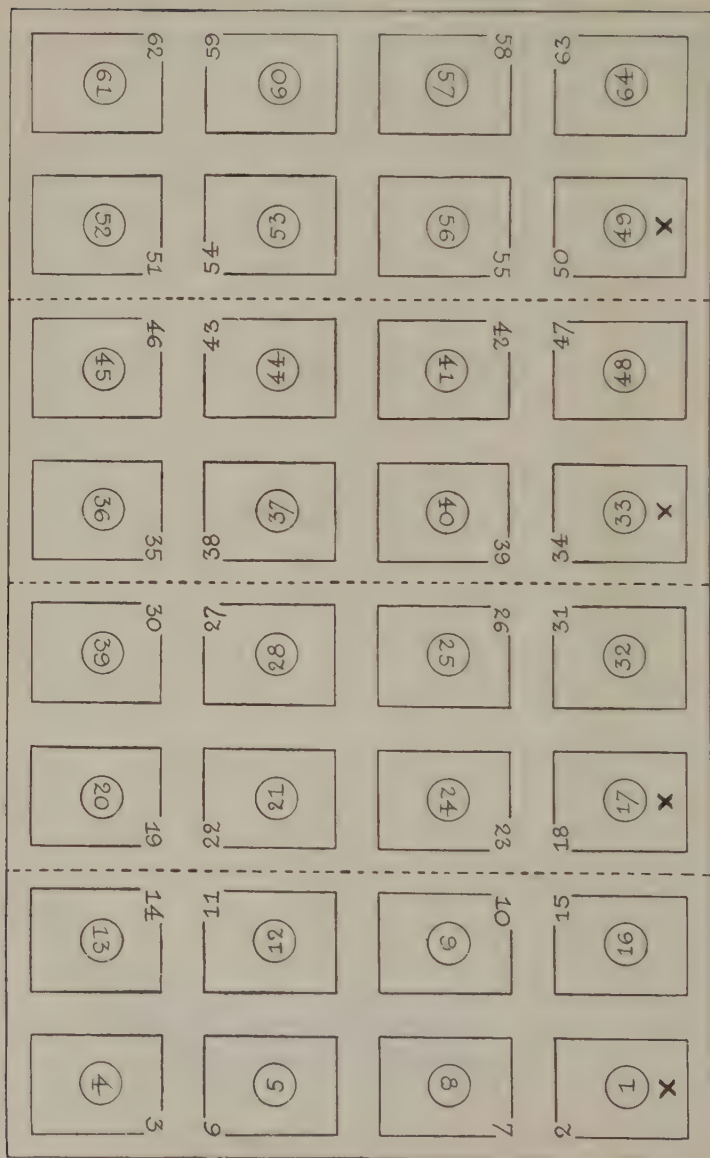

FIG. 255—QUADRUPLE-16 SHEET—CIRCLED FOLIOS ARE ON REVERSE SIDE. X MARKS LOW FOLIOS.
11. If the sheet has four sixteens printed thereon it is probably a "quadruple" sheet and will look like Fig. 255. A quadruple sheet must be cut into four parts for hand folding. A quadruple sheet will have four sets of sixteen page folios and the "high" and "low" folios of each sixteen will be found along *one long* edge.